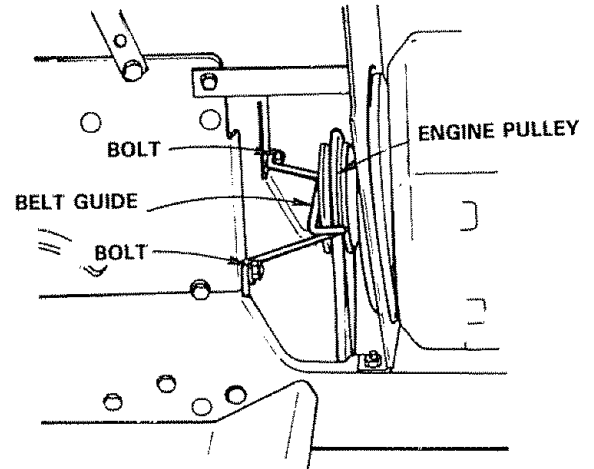

FIGURE 36
- f. Loosen L.H. engine pulley belt guide bolt and swivel belt guide bolt and swivel belt guide onto R.H. bolt. Tighten L.H. and R.H. bolts securely (Fig. 36).